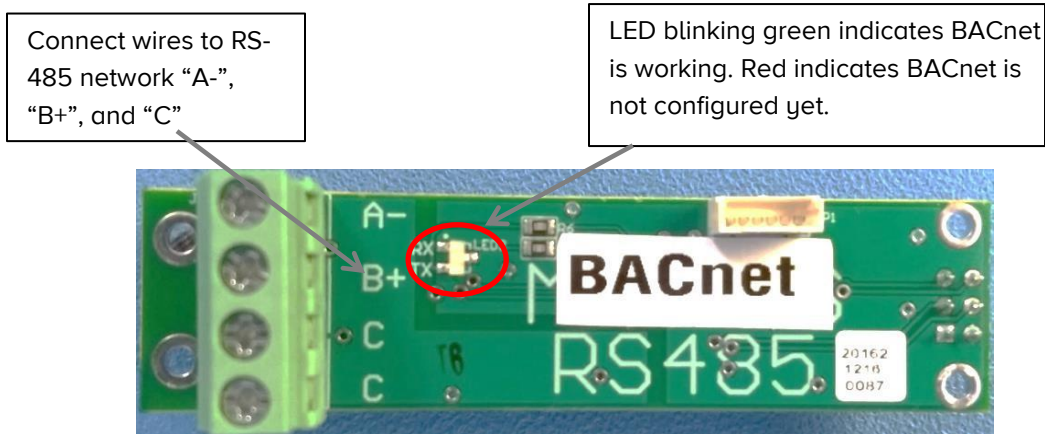

Figure 1. Standard BACnet Module Board Located in Slot 12 of Terminal Board
BACnet is normally installed in slot 12 of the terminal board (See Figure 1 below). However, the BACnet module can be installed in any free slot on the board. Users may install their BACnet module in the field as standard with other option modules. See InnovaSonic 207i BACnet manual, Chapter 2 \(section 2.4\) for field set up instructions.
1. Connect your BACnet MS/TP to the BACnet module terminals. The RS-485 connections are A-,B+ and C, isolated RS-485 ground. Follow best RS-485 wiring practices (See Figure 1).